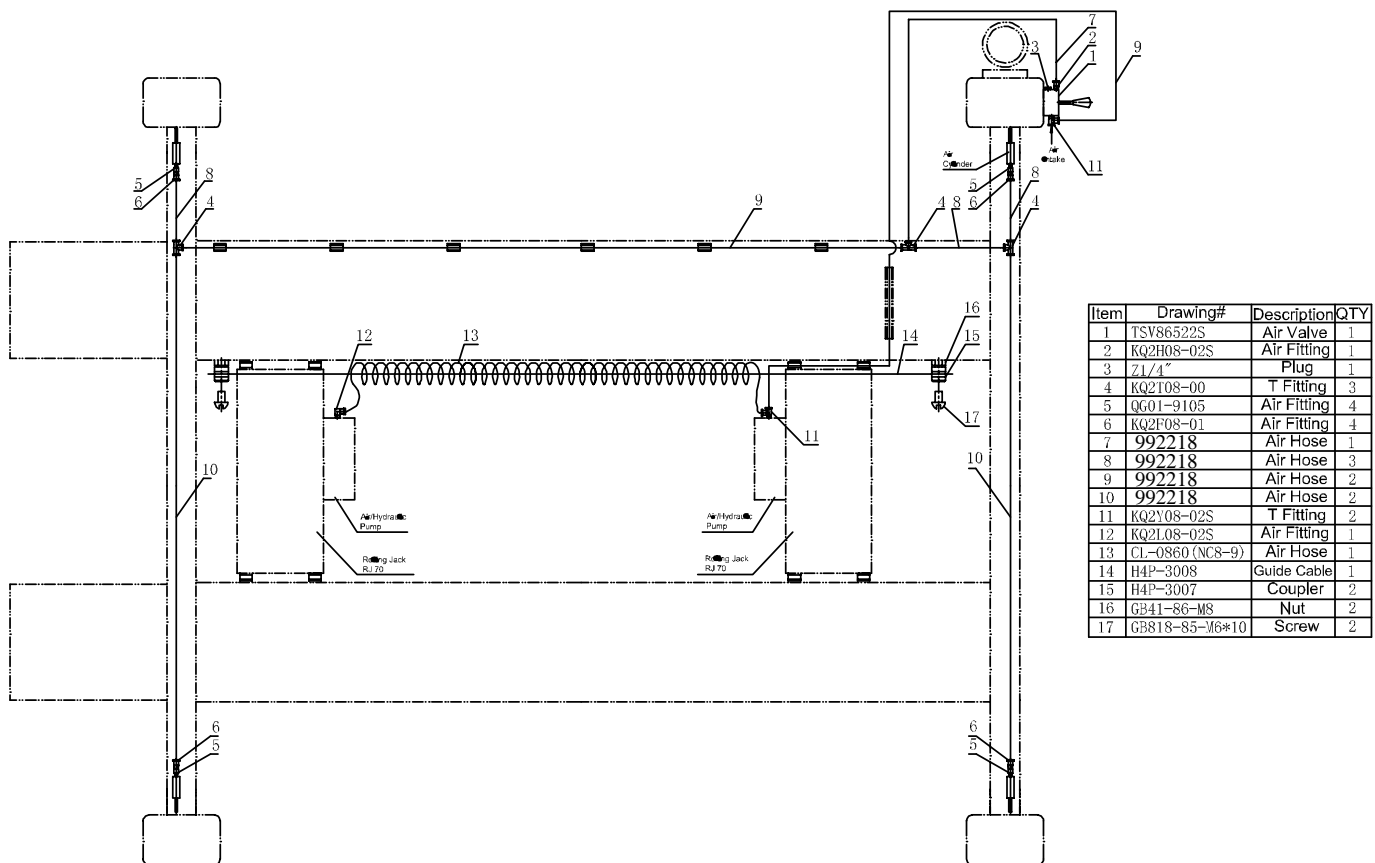

Figure 2-11. Air Hose Routing and Assembly
2. Install the air tubing as shown in figure 2-11 using the parts listed in the figure. Most tubing is pre-installed. Connect front and rear "T" fittings. To connect air tubing, push air tubing into hole on fitting. The blue lock rings will lock the air tubing in place when you insert tube. Use air tubing supplied in the hardware kit to connect the air valve control located on the control post, to the "T" fitting under the front power runway next to the hydraulic fitting.